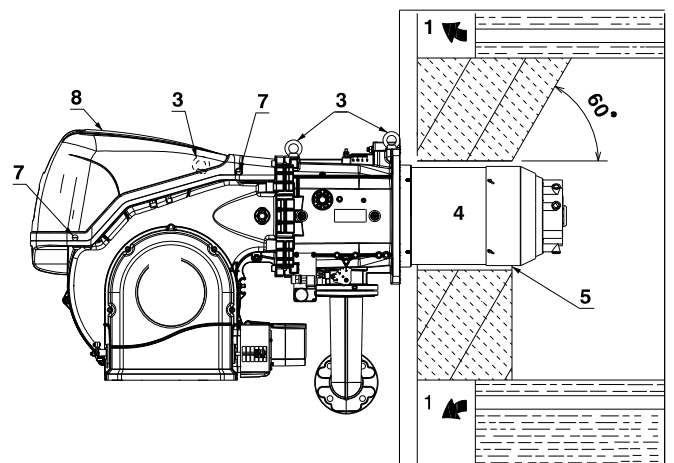

Fig. 15
For boilers with front flue passes 1)(Fig. 15) or flame inversion chamber, a protection in refractory material 5) must be inserted between the boiler fettling 2) and the blast tube 4).
For boilers with a water-cooled front piece, a refractory lining 2)-5)(Fig. 15) is not necessary, unless expressly requested by the boiler manufacturer.
Prepare a suitable lifting system using the rings 3)(Fig. 15), after removing the fixing screws 7) of the casing 8).
- Fit the heat insulation supplied onto the blast tube 4)(Fig. 15).